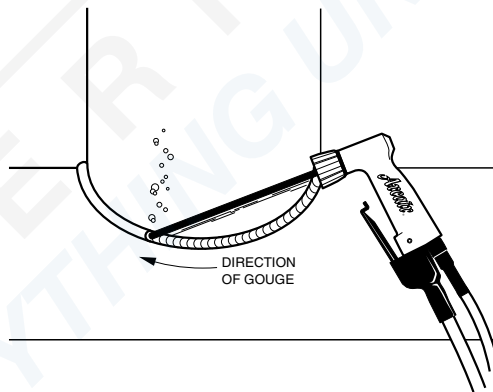

Figure 6: Removal of Fillet Weld
- Remove defective welds (Figure 6).